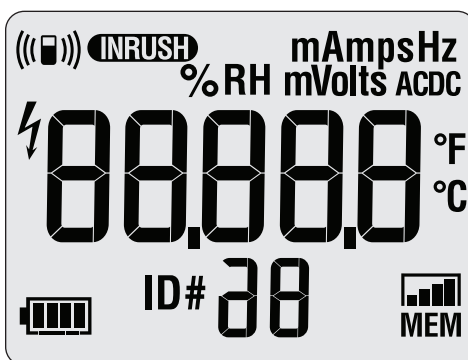

Figure 2. All Segments of the Display
2. Push **⏏** while you keep **LOG** pushed until all of the display segments are shown. See Figure 2.